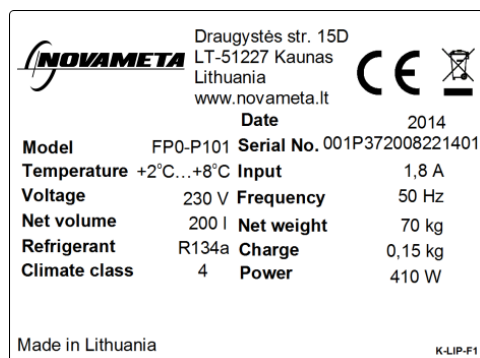

Fig. 6. Example of the nameplate
The unit is intended for connection to alternating current. The connection values for voltage (V) and frequency (Hz) are given on the nameplate. The nameplate shown in the fig. 6 is intended purely as an example.